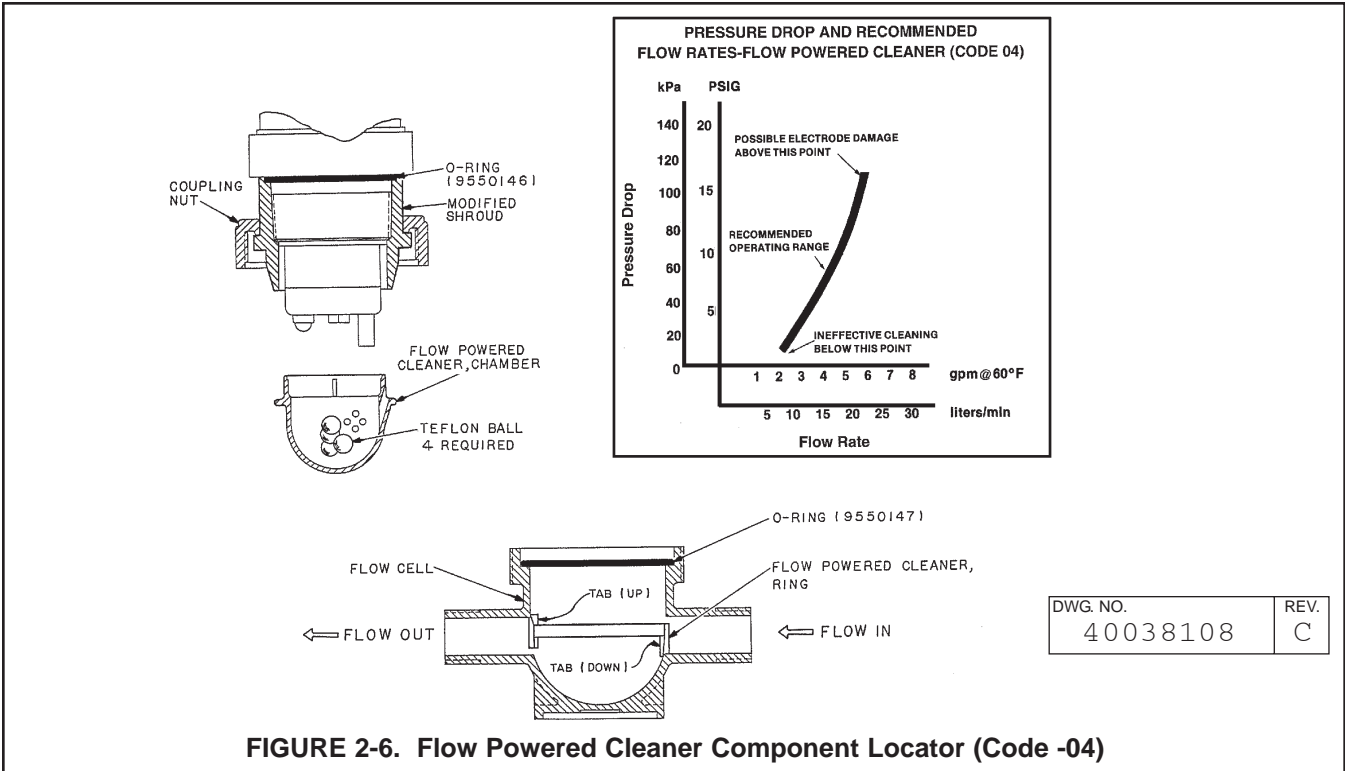

FIGURE 2-6. Flow Powered Cleaner Component Locator (Code -04)
2.5 FLOW POWERED CLEANER INSTALLATION (Code 04). To install the sensor in a flow cell with flow powered cleaner, proceed as follows (see Figure 2-6);
2. Insert the ring as shown in Figure 2-6. It should snap in place.